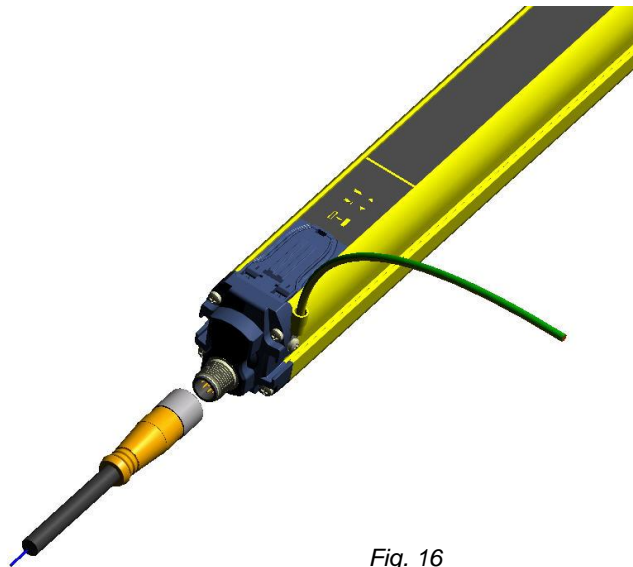

Fig. 16
- It is possible to connect to ground the device housing using the mechanical part supplied for ground connection (refer to configuration illustrated in Fig.16).